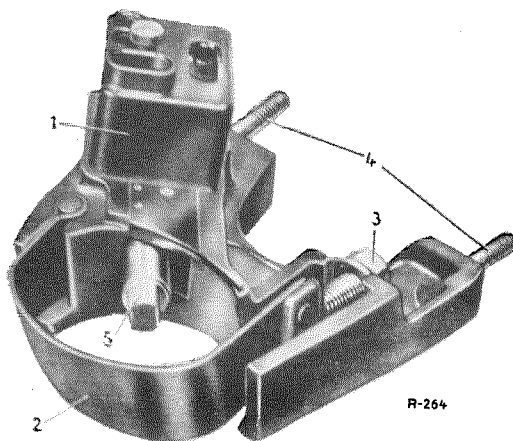

Fig. 46 — 7/1
4. Back out the grub screw (4) in the steering column jacket (see Fig. 46 — 7/2).